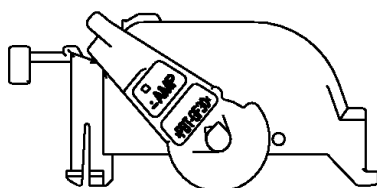

Fig.16
**NOTE** Be aware Lever position. The operation should be done with same Lever position as shipping condition. See Fig. 16 for Lever shipping condition.
- (1) Confirm Lever is in final lock ( in shipping condition from Tyco) condition. (See Fig.16)
- (2) Release latch at the tip of Lever Assembly Lock at wire taking out side with specified screw driver being inserted in the hole and pressing. And then take out Lever Assembly after releasing all latching at wire taking out area by pressing the lock to inside.